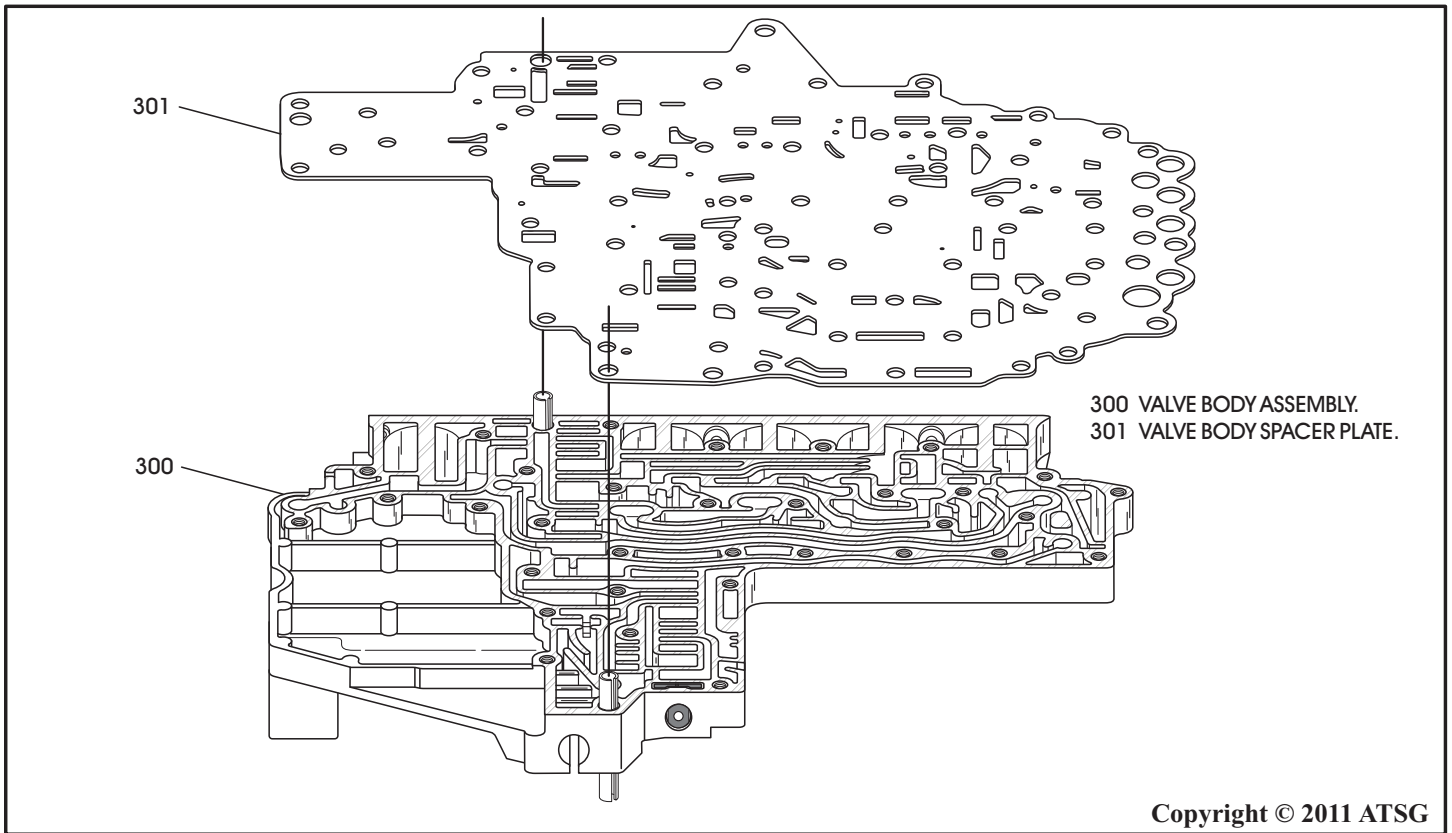

Figure 125
11. Install the valve body spacer plate over the locating dowels and onto the valve body as shown in Figure 125.